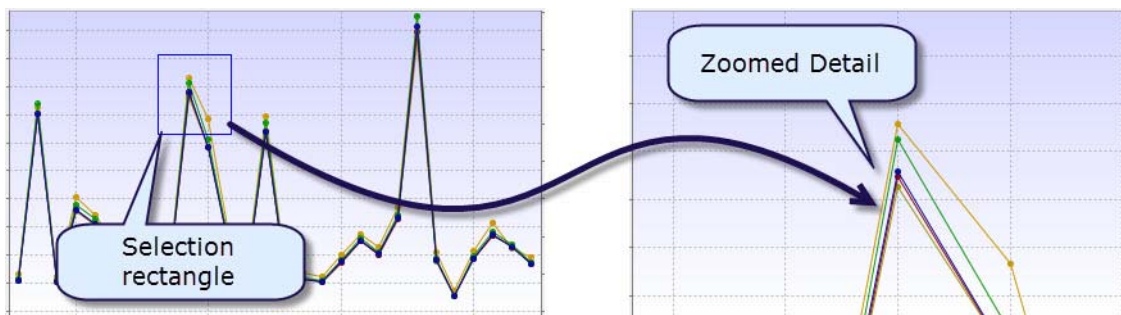
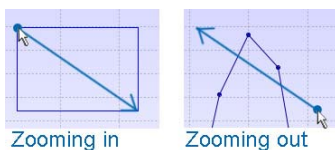

Fig. 20 Zooming into a graph using the selected area (left) - zoomed detail (right)
Fig. 21 Zooming into a graph (left) and out of the graph with the left mouse key pressed (right)
- Keep the left mouse key pressed and select the area in the graph you would like to enlarge from the upper left to the lower right corner (Fig. 20 on p. 27, left and Fig. 21 on p. 27). The selection will be shown as a rectangle. Then, release the left mouse key.
- Keep the left mouse key pressed and move the mouse slightly in the direction from the lower-right to the upper-left corner. Then, release the mouse key (Fig. 21 on p. 27, right).